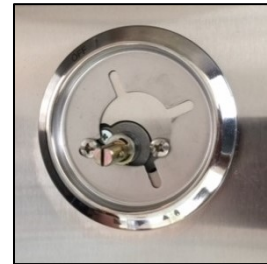

Figure 13
3. With a Phillips screw driver, loosen the screw that holds the bezel. Ensure they are very loose. (Fig. 13)